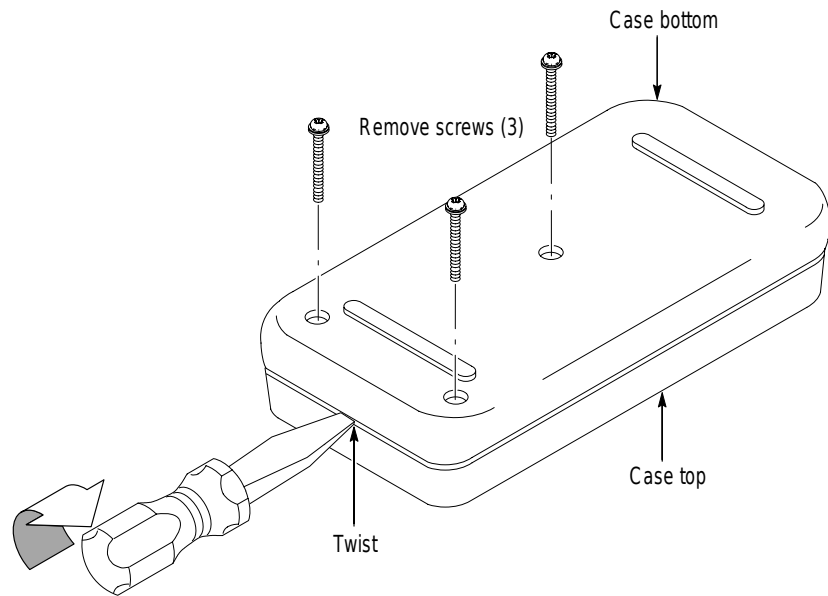

Figure 2: Opening the meter case
3. Gently lift the end of the case bottom at the end opposite from the display. Then lift the end nearest the display until it unsnaps from the case top. See Figure 2 for details.